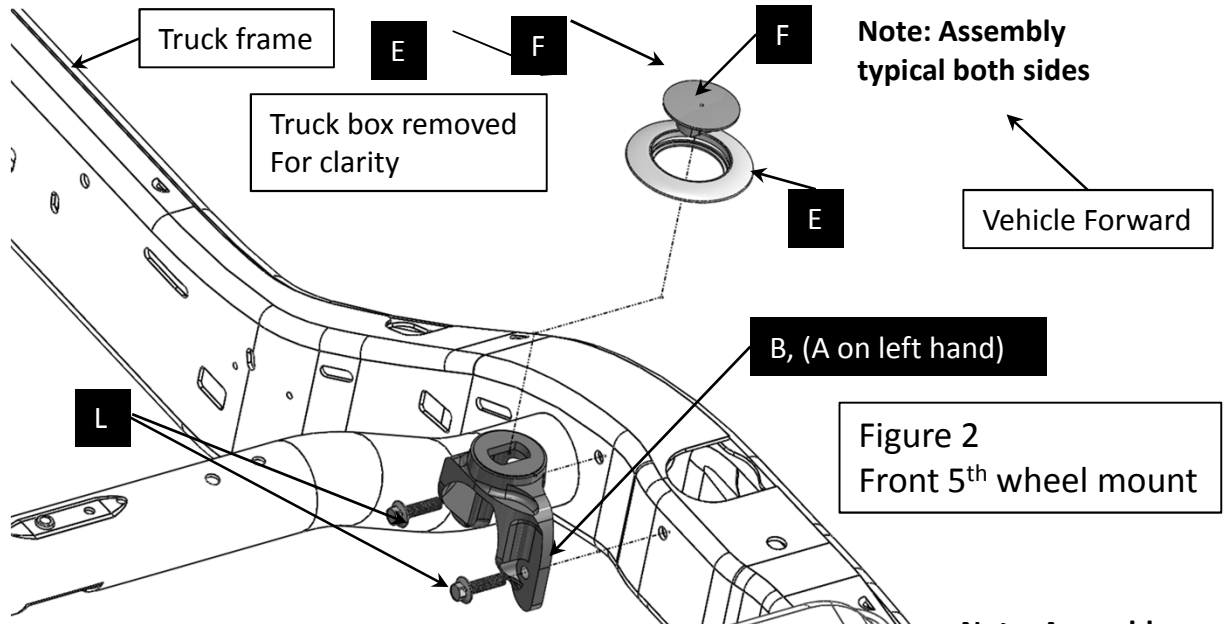

Figure 2
- 5) **Front Mounts** - Install part 'B' 5th wheel receiver-RH front in frame as shown in (Fig. 2), Use (2) M12-1.5x45mm bolts (part L) **NOTE ORIENTATION.**